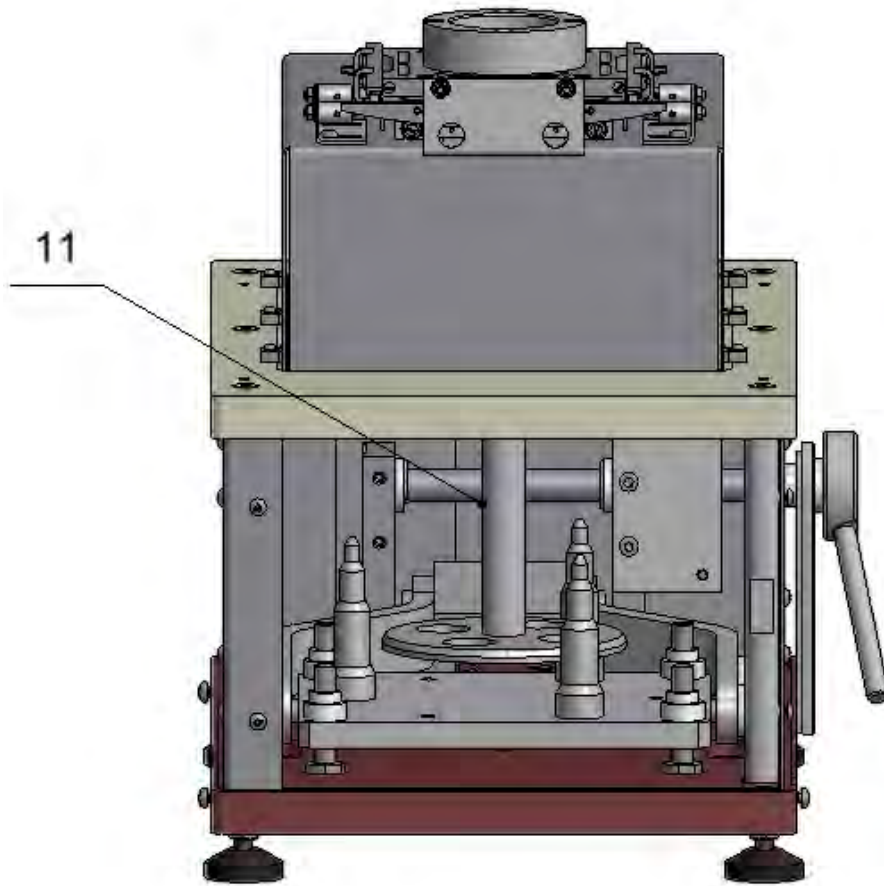

Fig. 3
6. Use wrench to remove weighing pan connecting member (11). (Fig. 3)